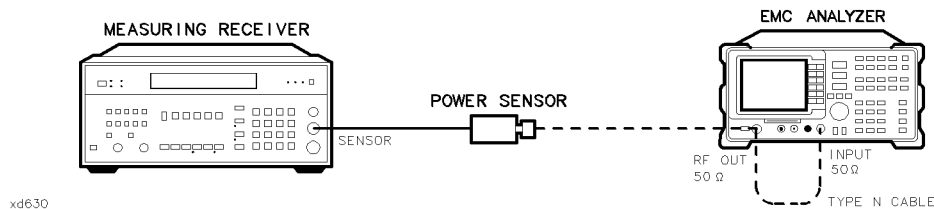

Figure 2-77.
1. Connect the Type N cable between the RF OUT 50 Ω and INPUT 50 Ω connectors on the EMC analyzer. See Figure 2-77.
- AUX/USER** Track Gen SRC PWR ON OFF (ON) 102 **dB μ V**